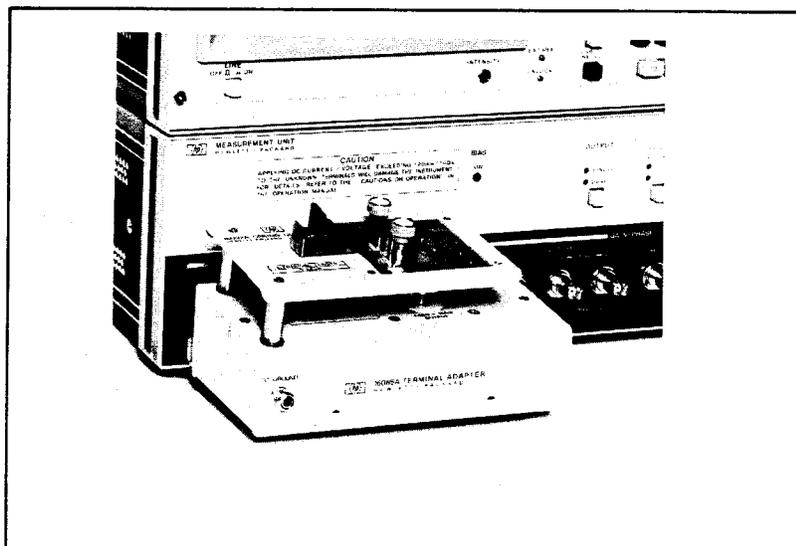

Figure 3-3. HP 16085A Connection
2. Connect the 16085A to the UNKNOWN Terminals on the front panel of the 4194A as shown in Figure 3-3.